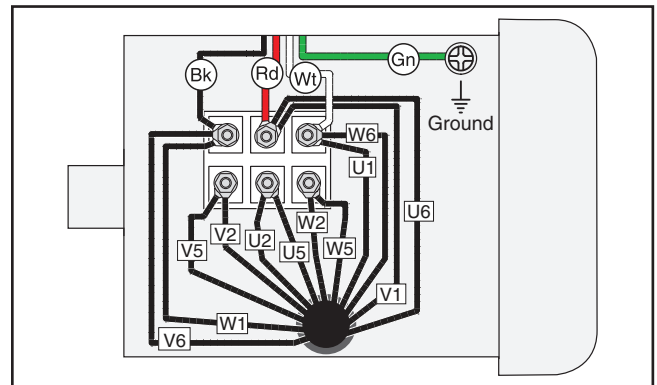

Figure 7. Motor rewired to 440V.
4. Rewire motor, as shown in **Figure 7**, tighten hex nuts, then re-install junction box cover.